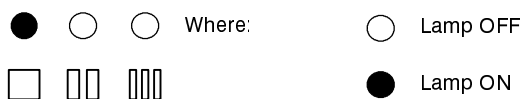

Fig. 34
- 3 The lamps E should give the indication as in Fig. 34 (reignition frequency). If not, press the reset button repeatedly to obtain it.